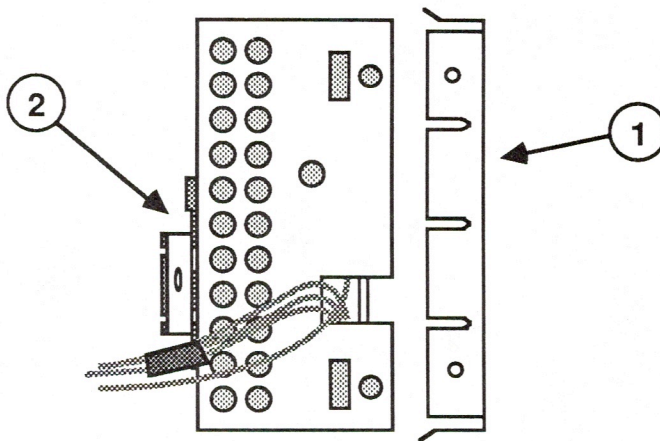

FIGURE 11
4. Pull off and set aside the back of the metal box that holds the video board "C" (Figure 11, #1).
8. Loosen the clamp that holds the video board "C" to the CRT neck by loosening the screw partway (Figure 11, #2).